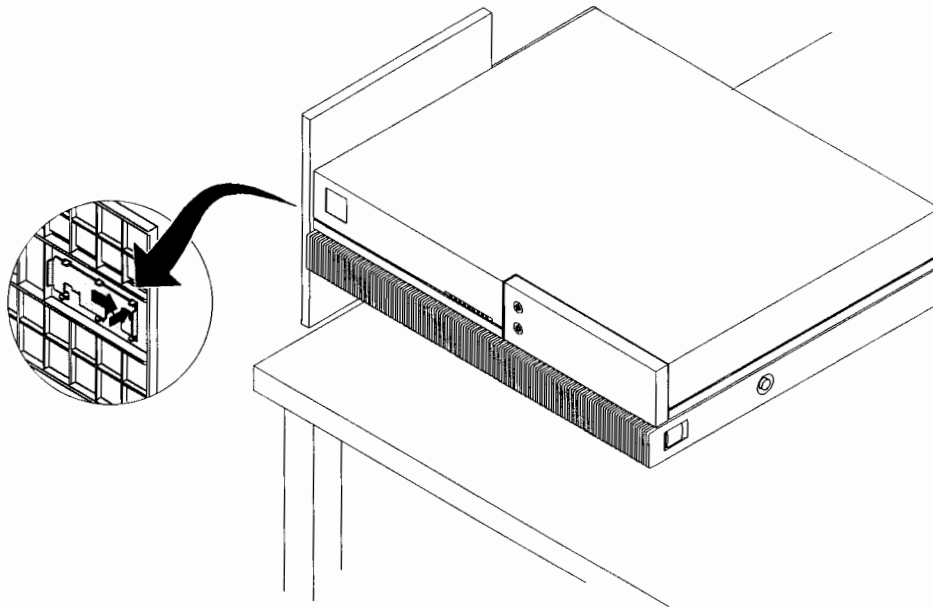

Figure B-2. Laying the System Unit Flat
4. Lay the system unit on a flat surface, such as a table top, with the floor stand hanging over the edge. See Figure B-2.
5. On the bottom of the floor stand, slide the latch to unlock the floor stand. See Figure B-2.